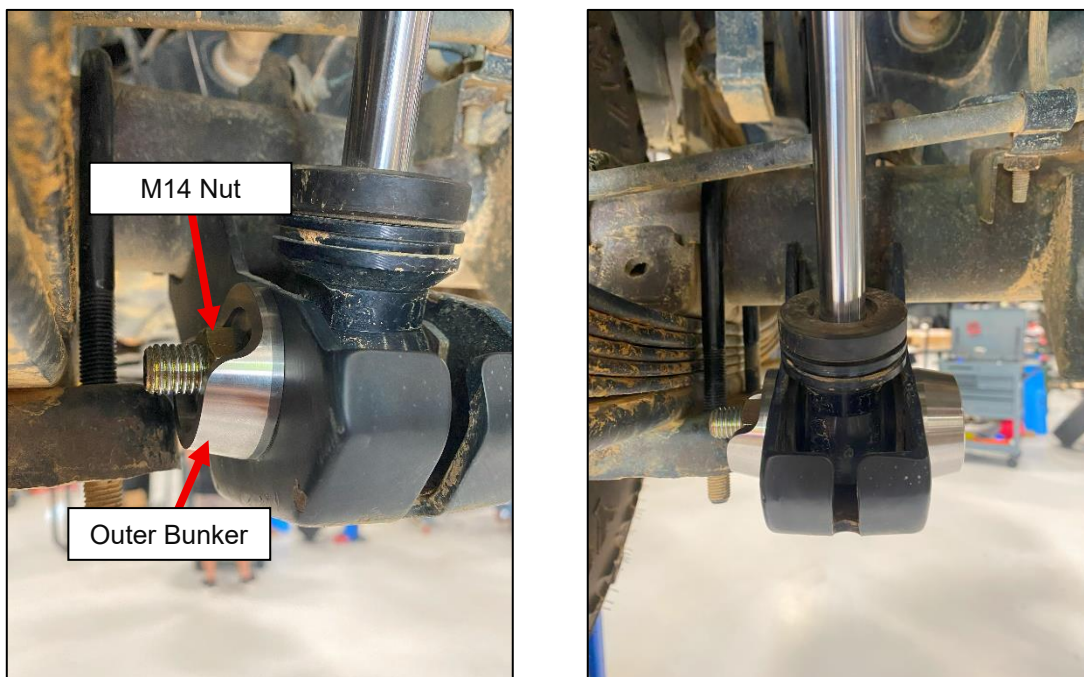

Figure 3
6. On the outside of the Bolt Bunker, secure the M14 Bolt with the Outer Bunker and the M14 Nut. The Outer Nut has a cutout to allow access for a wrench, orient the Bunker so the opening is at the top. The M14 Nut is also a distorted nut and will only thread on one way. *Figure 3.*